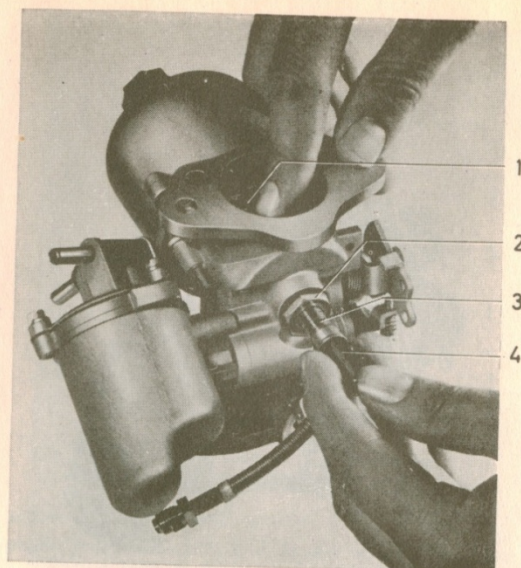

**Fig. 1-76. The jet, disassembled**
3. Fit the jet sleeve, locknut and adjusting nut, see Fig. 1-76. Slide in the jet and center it. See "Centering the jet".
2. Remove the adjuster nut (6) and the spring (5), Fig. 1-76. Loosen the locknut so that the sleeve can be moved.